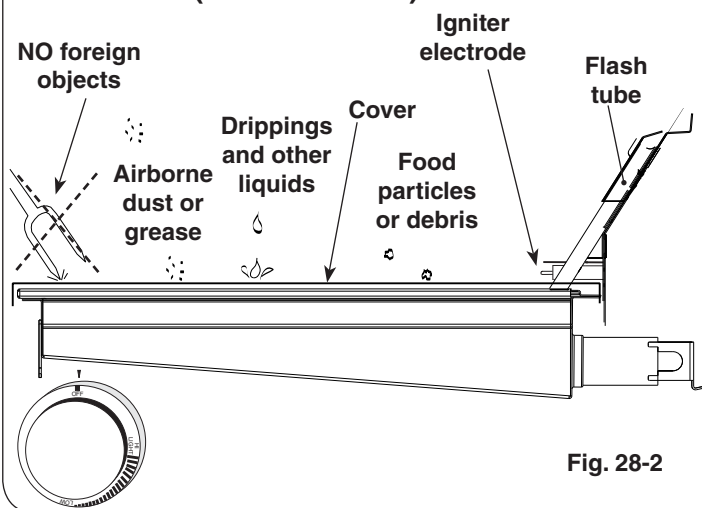

Fig. 28-2
- When not in use, **always** cover the infrared burner with the stainless-steel cover. This protects the burner from drippings (from other cooking), airborne particles, and foreign objects (Fig. 28-2).
- Do not strike or scratch the burner ceramic as it may chip, crack, or break (Fig. 28-2).